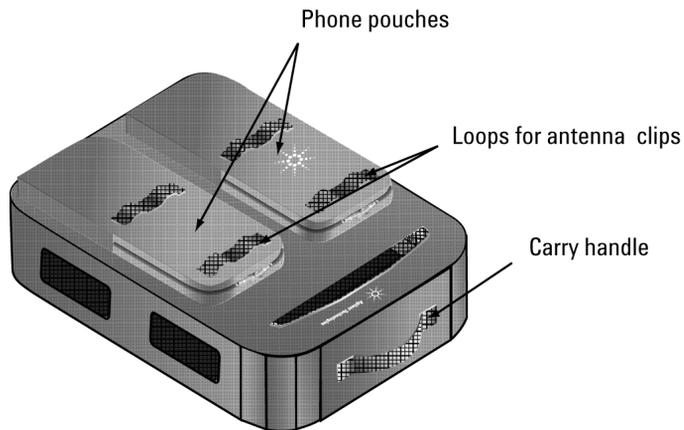

Figure 35 Backpack exterior features
- 5 Attach the clip-on receiver antennas to the antenna loops on the sides of the backpack. See Figure 35.